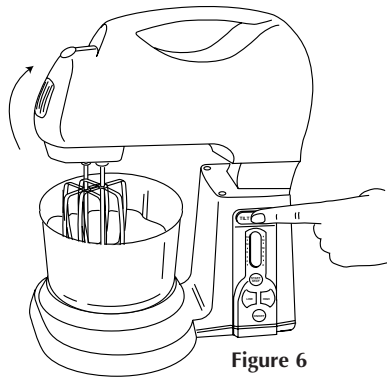

Figure 6
14. Press the Head Release Button and carefully raise the Mixer Head. See Figure 6.